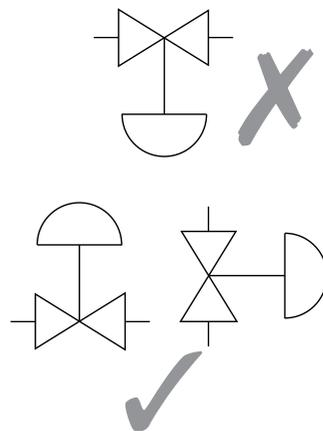

Fig. 2
3.3 Determine the correct installation situation and the direction of fluid flow. The valve should preferably be installed along a horizontal pipeline with the valve mounted above the pipe (see Figure 2). When mounting an actuator to the valve body, the actuator Installation and Maintenance Instructions must be followed.